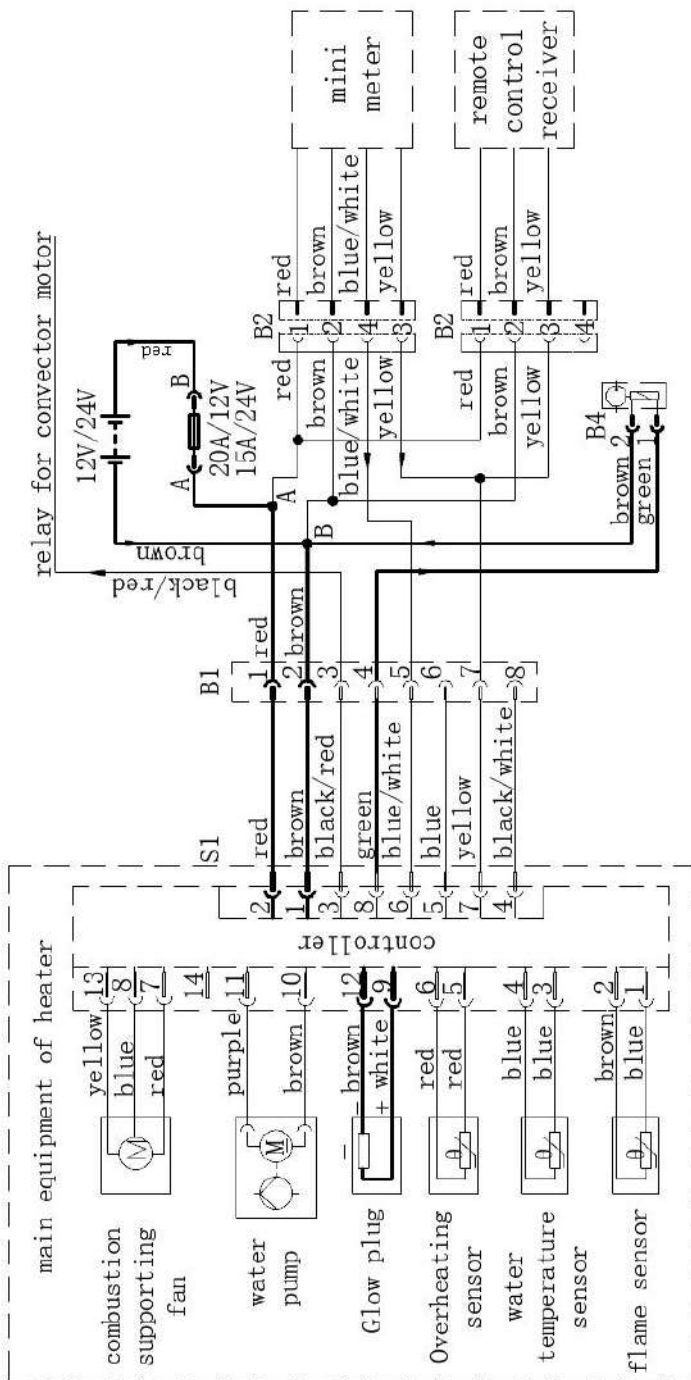

Fig.11
The wiring diagram for the heater in Fig. 11.
4.6.4 For those components whose connecting wires may need to go through small holes (such as LCD switch and remote control receiver), you need to pass the wires through the holes before the connection is made to the connector. For such reason, the terminals of these components are not plugged in the sockets in the factory. You have to plug in the terminals according to Fig. 11. You have to keep correct relations for them. Connector for the remote control receiver: Plug connection shall be made according to wire color and serial number of terminals on the sockets.